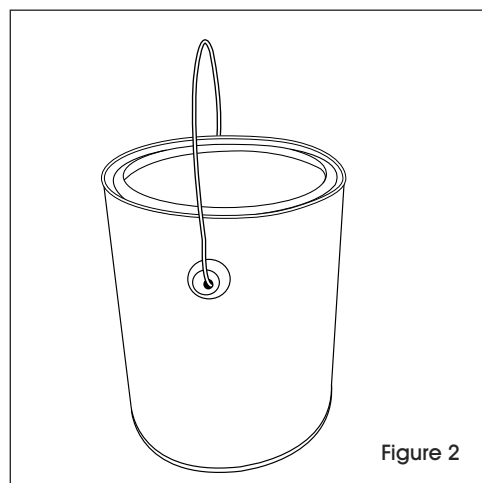

Figure 2
2. Rotate handle so it arches over the can. (See Figure 2)
au-dessus du pot. (Voir Figure 2)